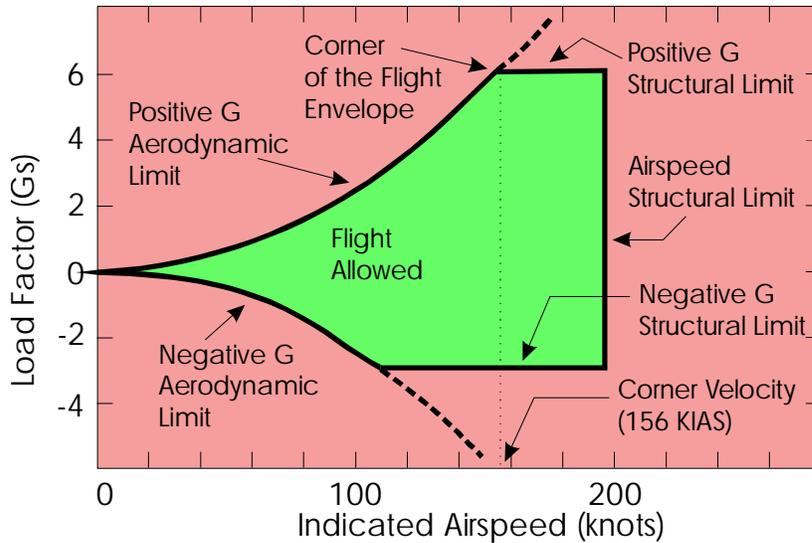

Figure 1: The Flight Strength Envelope for the T-3.
On our road to understanding turn performance, the first place we need to turn is that old standby of UPT aerodynamics class, the flight strength envelope. Figure 1 shows a fictitious but reasonable flight strength envelope for the T-3. The actual flight strength envelope isn't included in the "Dash-1" (the Air Force technical manual for an aircraft). I have extrapolated the envelope from other parameters in the Firefly's Dash-1. We'll look at this "unofficial" diagram because it is about as simple as they come—parabolic aerodynamic limit curves ($n \propto v^2$), constant redline speeds and constant structural limits. The flight strength diagrams for other aircraft may not be as simple as the Firefly's, but the points we review here will still apply to those charts.
As a quick review, a flight strength envelope plotted like Figure 1 is also known as a V-n diagram, as the horizontal axis is the aircraft's airspeed (V) while the vertical axis is the load factor (n), or (*very loosely*) the number of Gs being pulled by the aircraft. The horizontal lines at +6 and -3 Gs are the aircraft's structural limits. If you want to rip the wings off the plane, these are the limits to exceed. The vertical line at 195 knots is the aircraft's redline airspeed. All sorts of nasty things like resonant wing twisting (flutter) and